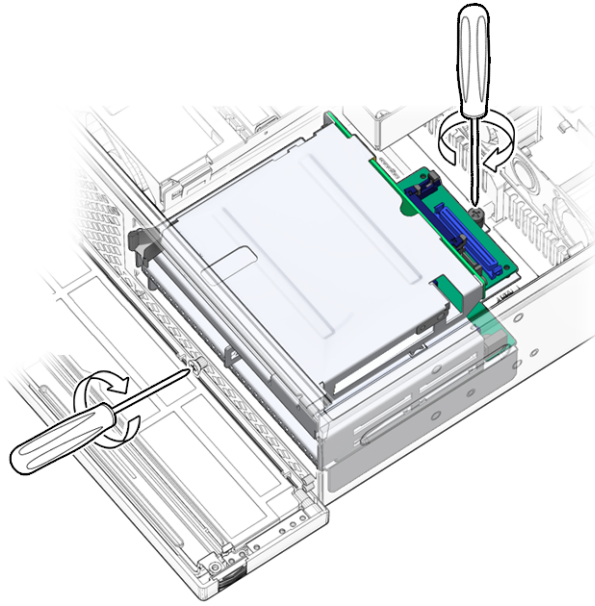

FIGURE 3-14 Tightening the Mass Storage Assembly Screws
- 4. Tighten the screws at the front of the chassis and the back of the mass storage bracket (FIGURE 3-14).**